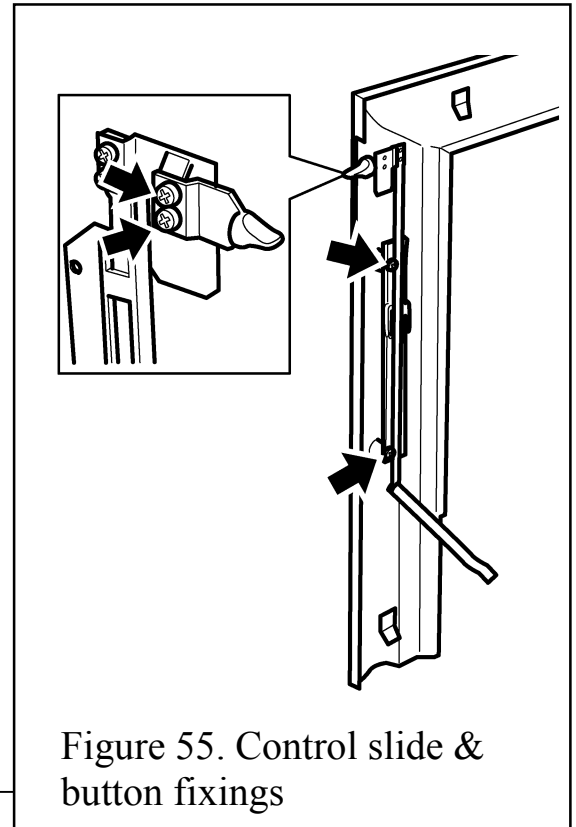

Figure 55. Control slide & button fixings
3. Detach the slide unit by removing two screws securing the plastic slide mechanism to the rear of the front surround - See figure 55.
2. Detach the slide button by removing two screws - See figure 55.